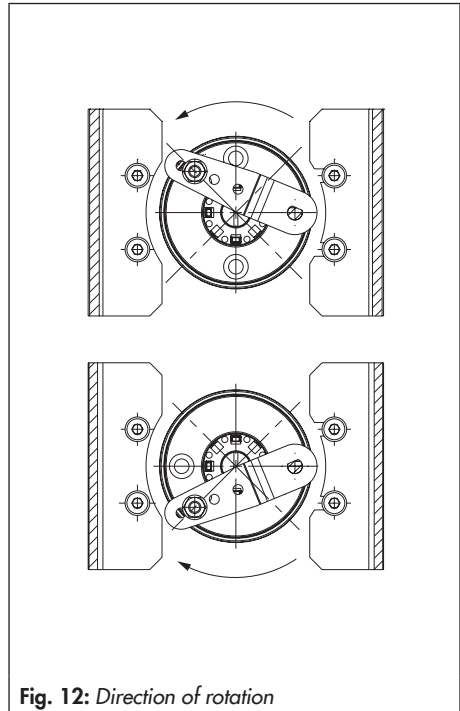
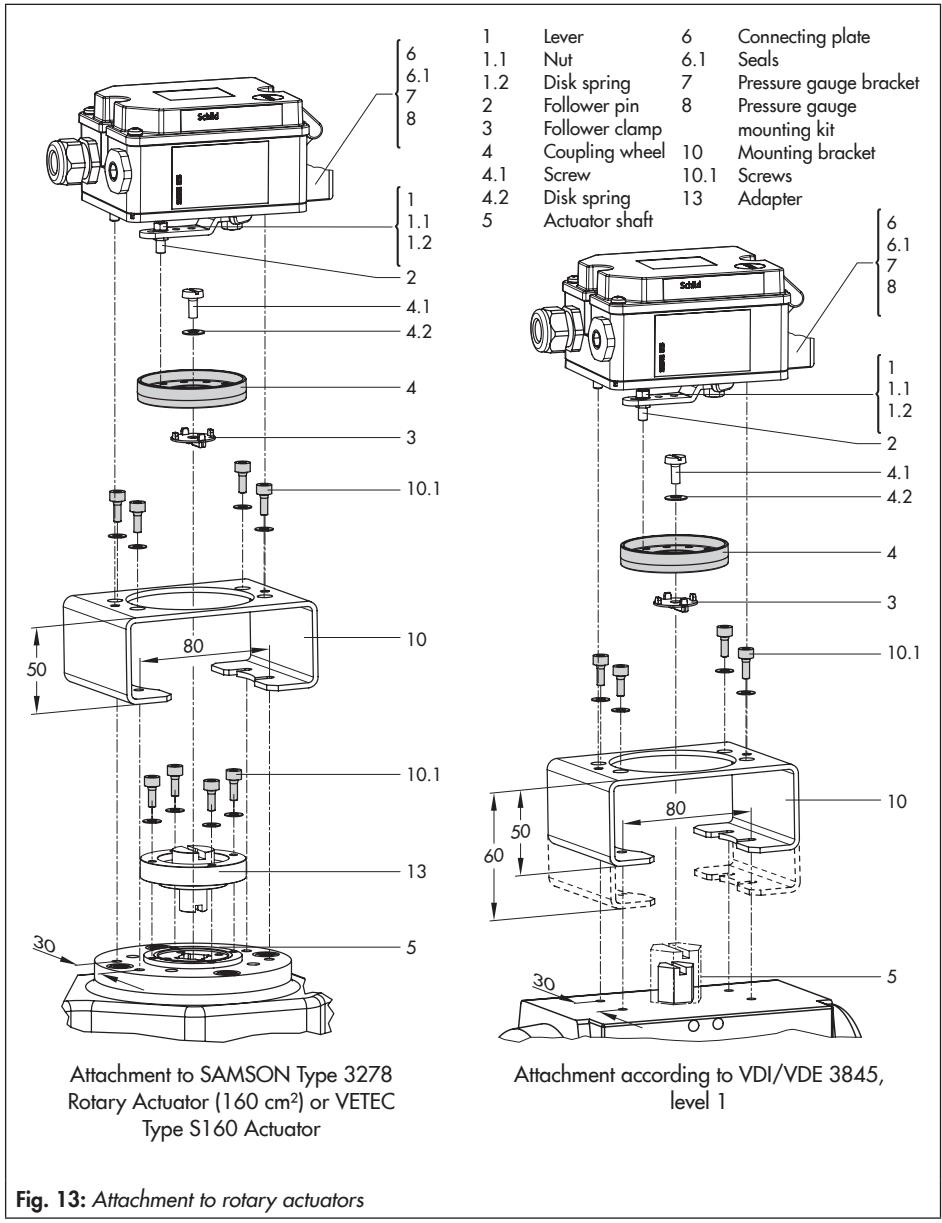

Fig. 12: Direction of rotation
Fig. 13: Attachment to rotary actuators
- ➔ Before attaching the positioner onto the SAMSON Type 3278 Rotary Actuator (160 cm²) or VETEC Type S160 Actuator, first mount the adapter (13) to the free end of the shaft end using four screws (10.2).
1. Place follower clamp (3) on the slotted actuator shaft or adapter (13).
2. Place coupling wheel (4) with flat side facing the actuator on the follower clamp (3). Align slot so that it matches the direction of rotation when the valve is in its closed position (see Fig. 12).
3. Fasten the coupling wheel (4) and follower clamp (3) tightly onto the actuator shaft using screw (4.1) and disk spring (4.2).
4. Mount connecting plate (6) or pressure gauge bracket (7) with pressure gauges (8) on the positioner. Make sure that the two seals are seated properly.
5. Fasten the mounting bracket (10) to the actuator using four screws (10.1).
6. Unscrew the standard follower pin (2) from the positioner's M lever (1). Use the metal follower pin (Ø 5 mm) included in the mounting kit and screw tight into the hole for pin position 90°.
7. Place positioner on the mounting bracket (10) and fasten tight. Taking the actuator's direction of rotation into account, adjust lever (1) so that it engages in the slot of the coupling wheel (4) with its lower pin (Fig. 13).
- ➔ The lever (1) must be parallel to the long side of the positioner when the actuator is at half its angle of rotation.
8. Stick the scale plate on the coupling wheel (4) so that the arrow tip indicates the closed position and it can be easily read when the valve is installed.